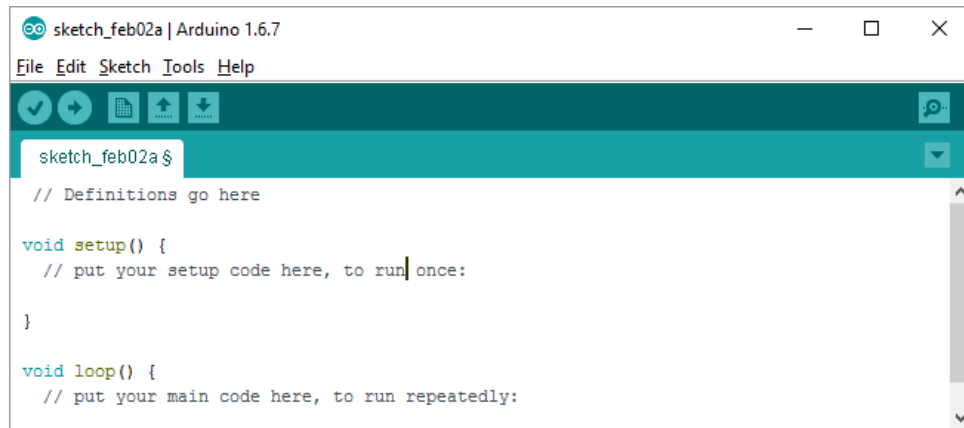

Figure 6. Code section of Arduino IDE
- 3 Examine the “Code” area of the Arduino sketch. There are three main sections of code in an Arduino sketch: *Definitions*, *Void Setup* and *Void Loop* (see Figure 6).